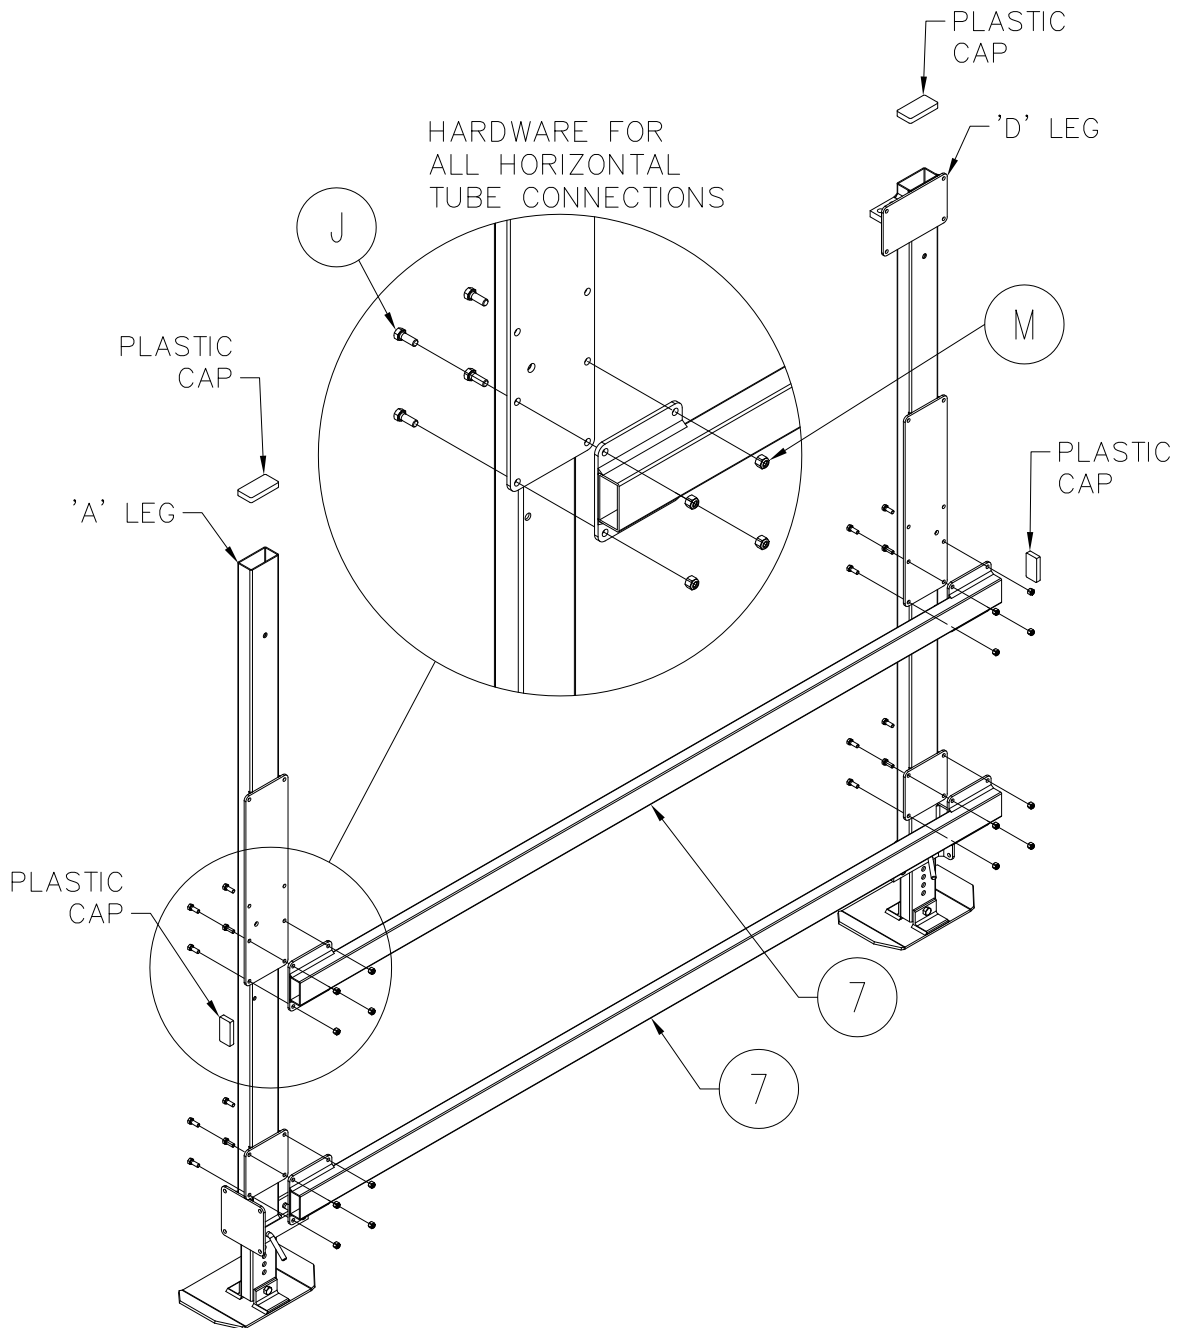

Figure 3-4.
1. Refer to Figure 3-4. Fasten a pair of short horizontal tubes between vertical legs A and D with hardware shown. DO NOT TIGHTEN.
5. Fasten a long horizontal tube across each end to connect the two sides using hardware shown in Figure 3-4. **DO NOT TIGHTEN.**
7. Install the eight (8) plastic caps provided onto the tops of the four vertical legs and the ends of the upper short horizontal tubes. See Fig. 3-4.